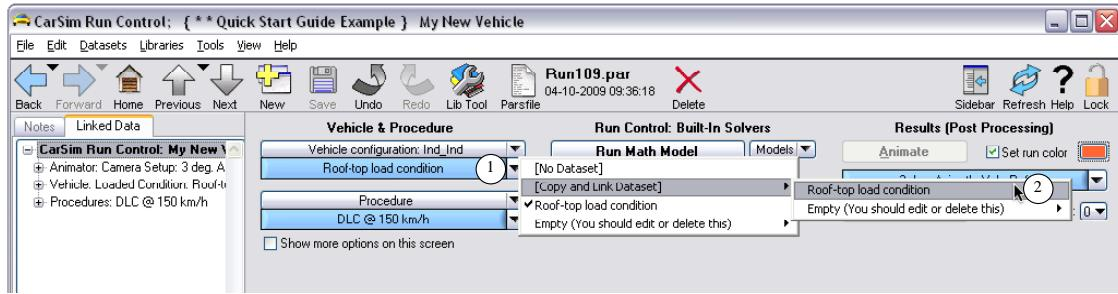

Figure 47. The **CarSim Run Control** screen with a new title but no new data.
10. Make a new dataset and give it the name My New Vehicle (Figure 47). As before, the screen shows your new title, and the **Animate** and **Plot** buttons are dimmed because the run hasn't been made yet. Select a color for the run.
16. Double-click the first line in the **Linked Data** sidebar to return to the home screen (Figure 47).